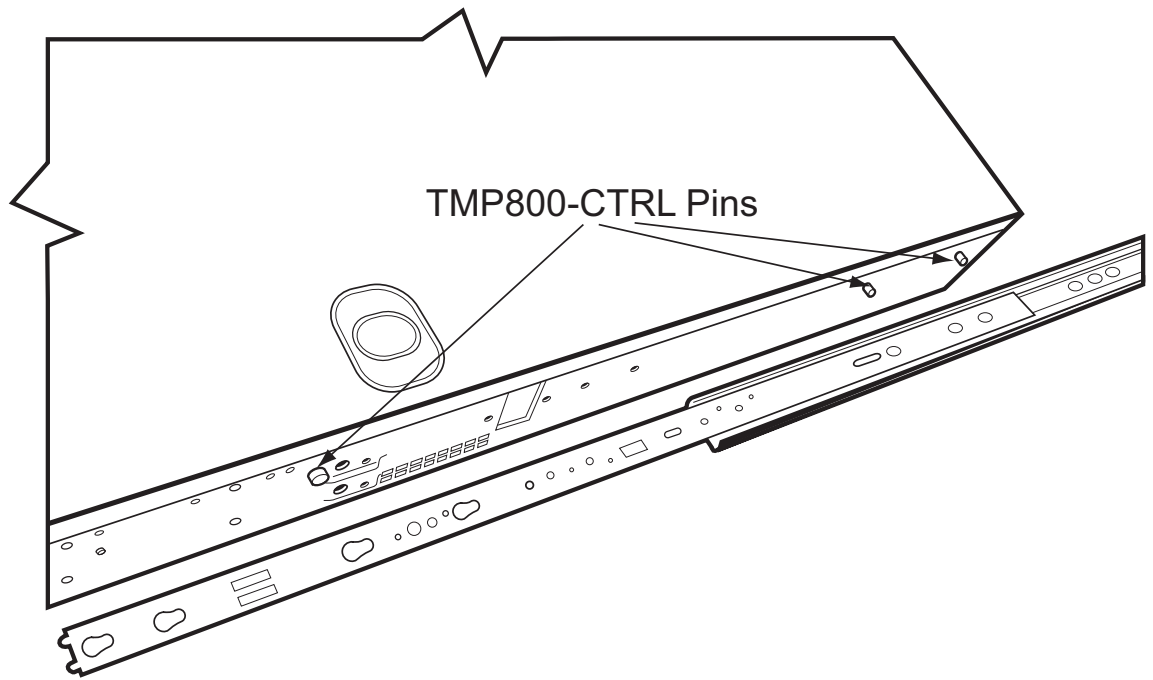
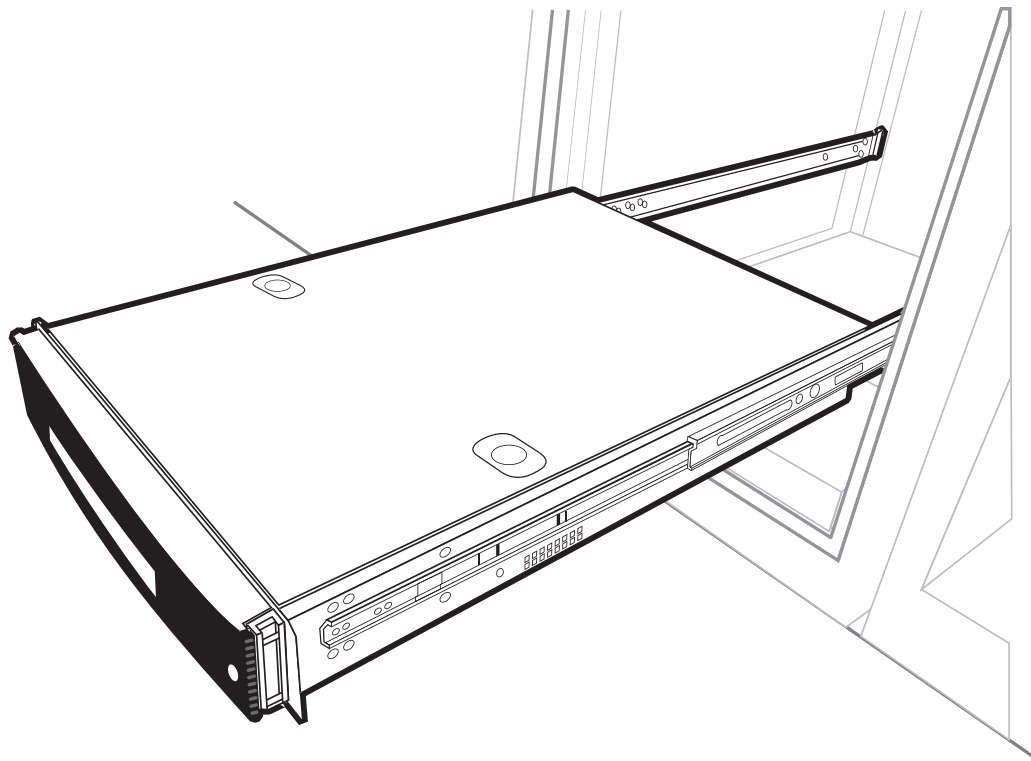

Figure 2.5 Attaching Sliding Rails to the TMP800-CTRL Mounting Pins
Figure 2.6 TMP800-CTRL Installed on Slider Rails in the Fully Extended Position
4. Attach the TMP800-CTRL to the rails. See figure 2.5 on page 14 and figure 2.6 on page 14.